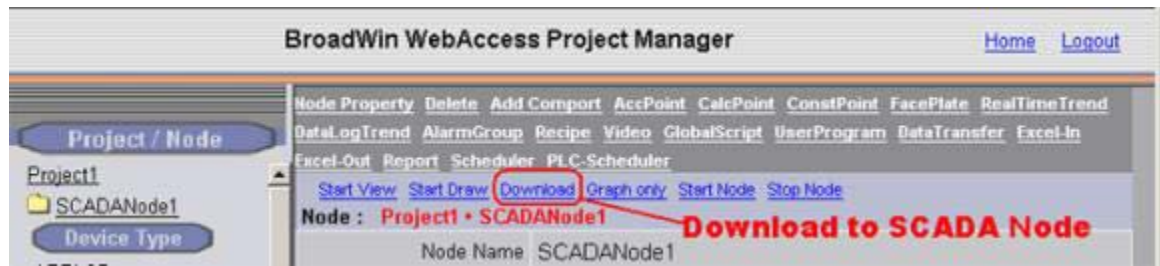

Figure 4-31 - SCADA Node Main page (Main.asp) - Download
1. Select the SCADA Node under your Project Name in the Project/Node list (Figure 4-31).
5. If the Node was not already running, from the Project Manager Select Start node (Figure 4-31).